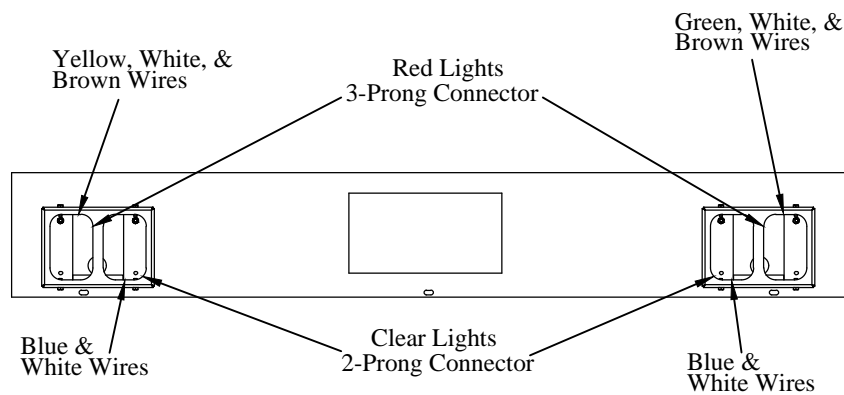

Figure 8
Step 10. Pull harness clips through the inserted grommets or bushings. Connect the clips to lights (Figure 8).